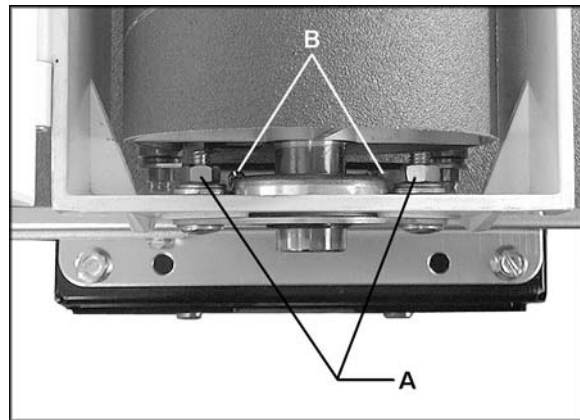

Figure 29
2. Loosen all four hex nuts on the bearing bolts (A, Figure 29). This will allow both tension rollers to drop to their lowest position. (NOTE: Figure 29 only shows outboard end of drum. Adjustments must be made on *both ends* of drum.)
4. Tighten the four hex nuts (A, Figure 29). Both tension rollers are now positioned about 1/16" below the bottom of the sanding drum.
You can increase or decrease tension roller pressure by turning the screws on the tension roller brackets (B, Figures 29 & 30).
2. If both tension rollers are causing snipe then tighten all four hex nuts (A, Figure 29) at this position.